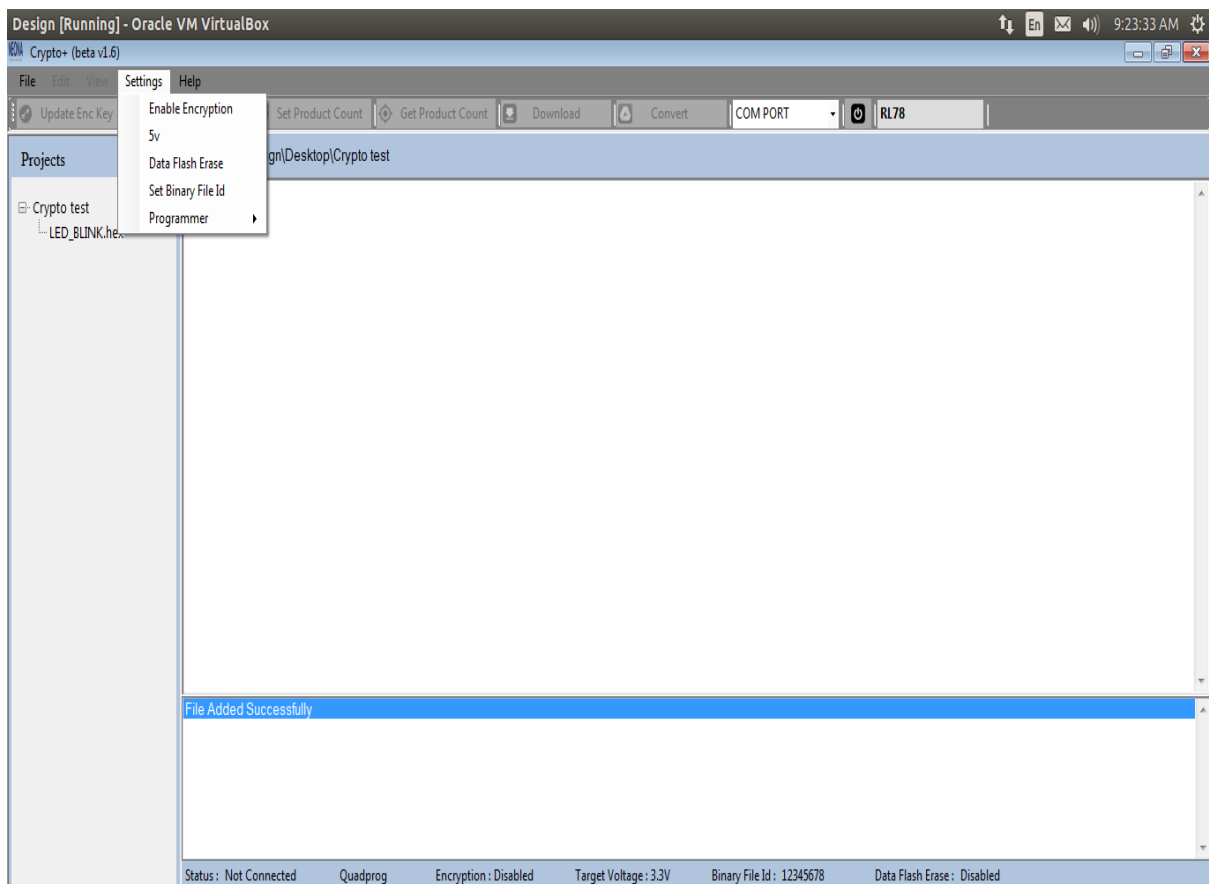

**Figure 2.46**
**STEP 2:** A window ‘**About Us**’ as shown in figure 2.46 will appear, which shows the details about the Crypto+.